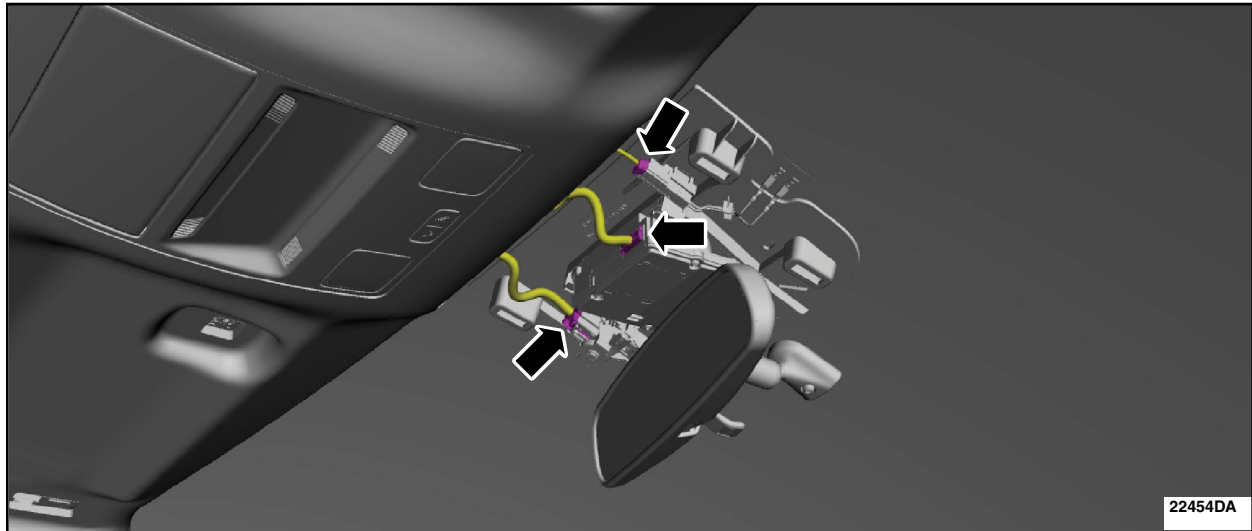

FIGURE 12
15. Disconnect the in-vehicle temperature and humidity sensor electrical connector, the IPMA electrical connector and the IPMA windshield heater grid electrical connector. See Figure 12.